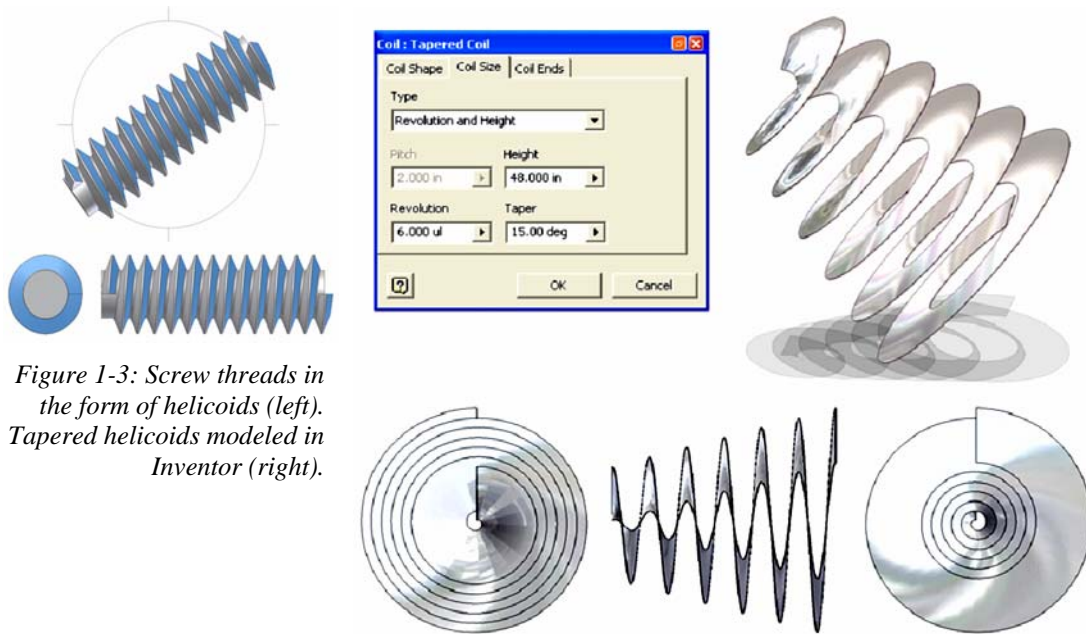

Figure 1-3: Screw threads in the form of helicoids (left). Tapered helicoids modeled in Inventor (right).
**Warped surface:** They include automobile hood and others, and cannot be developed by regular method; however, approximate development of a warped surface can be made by dividing the usually smooth warped surface into sections and substituting for each section a developable, plane or single-curved surface such as with a series of triangles. A warped surface is a non-developable ruled surface generated by straight lines moving in various patterns. In a warped surface, no two adjacent positions of the generatrix lie in the same plane. Warped surfaces include conoid helicoids, hyperboloid, streamlined surfaces of aircrafts and automobiles. Screw threads are examples of solids bound by warped surfaces (*Figure 1-3*). In practical fabrication, objects with warped surfaces are made by stretching, pressing, stamping, spinning, or vacuum or explosive processes, which are applied to flat sheet materials if they are pliable enough.